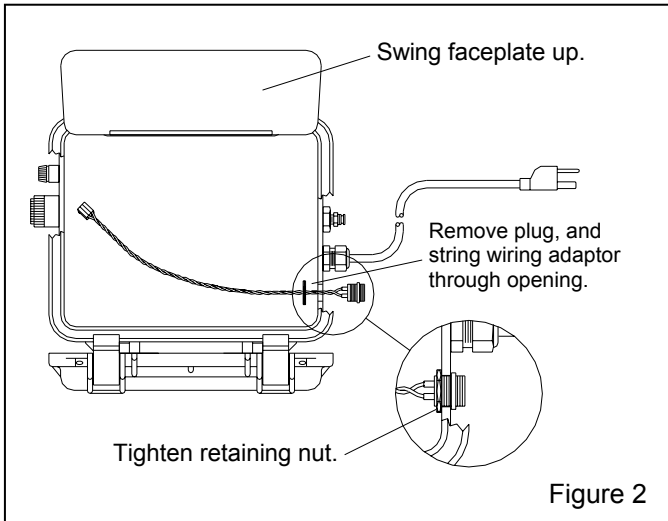

Figure 2
2.1.2.4 Remove the hole plug. It is located on the bottom of the CMS-1 case, and on the right side of the CMS-2 case. Ref. Figure 2 (CMS-2 is shown).
2.1.2.5 String the wiring adaptor through the case opening and retaining nut, as shown in Figure 2 (CMS-2 shown), and tighten the nut securely.